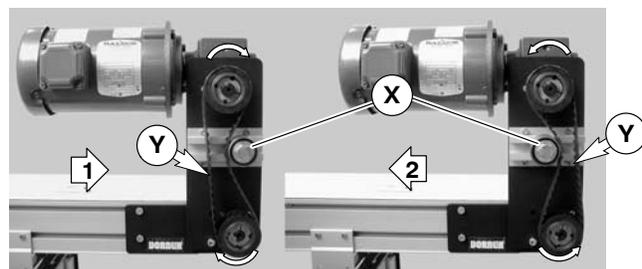

Figure 10
6. Wrap timing belt (Q) around driven pulley (M) and drive pulley (J). Install driven pulley (M) onto conveyor shaft.
8. Depending on conveyor belt travel (direction 1 or 2), locate timing belt tensioner (X of Figure 10) as shown. Tension timing belt to obtain 1/8" (3 mm) deflection for 6 lb (3 Kg) of force at timing belt mid-point (Y). Tighten tensioner screw to 110 in-lb (12 Nm).
3. Depending on conveyor belt travel (direction 1 or 2), locate timing belt tensioner (X of Figure 10) as shown. Tension timing belt to obtain 1/8" (3 mm) deflection for 6 lb (3 Kg) of force at timing belt mid-point (Y). Tighten tensioner screw to 110 in-lb (12 Nm).
5. Depending on conveyor belt travel (direction 1 or 2), locate timing belt tensioner (X of Figure 10) as shown. Tension timing belt to obtain 1/8" (3 mm) deflection for 6 lb (3 Kg) of force at timing belt mid-point (Y). Tighten tensioner screw to 110 in-lb (12 Nm).